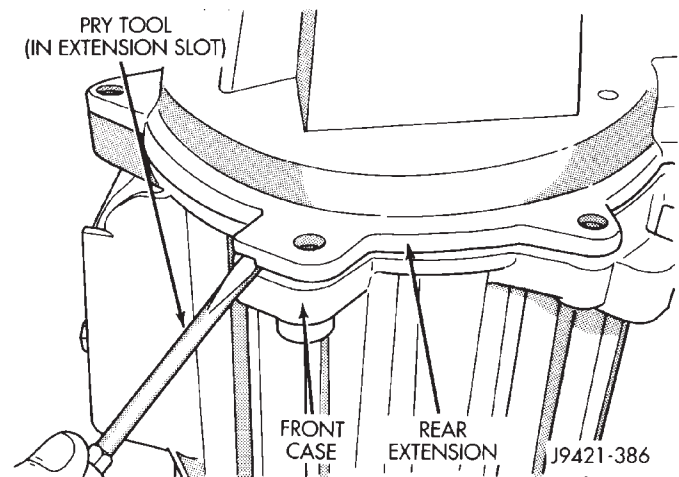

Fig. 24 Loosening Rear Extension (Breaking Sealer Bead)
(11) Pry extension away from front case with flat blade screwdriver. Position screwdriver in slots provided at each end of case and extension (Fig. 24).